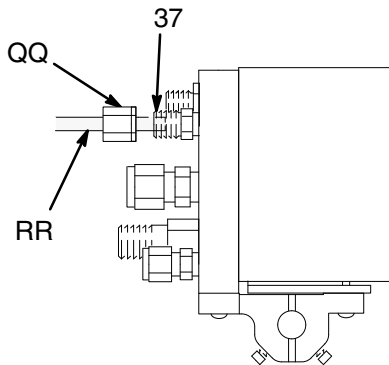

Fig. 7
2. Remove the nut (QQ) from the fiber optic fitting (37), and slide the nut over the end of the fiber optic cable (RR). See Fig. 7.
3. Insert the cable (RR) into the fitting (37), and push the cable in until it bottoms out. Tighten the nut (QQ) to secure the cable.